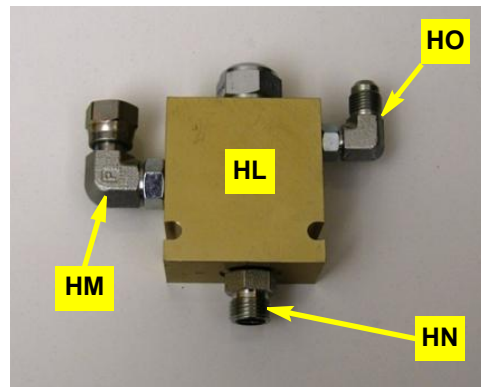

Figure 6a: Prepared load sense valve
a. Prepare dynamic load sense valve **HL** as follows (Figure 6a):